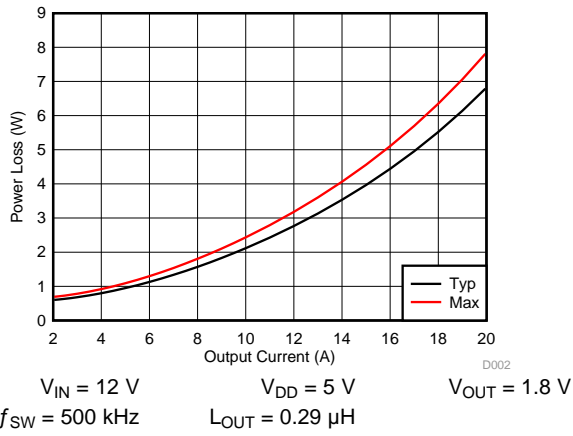
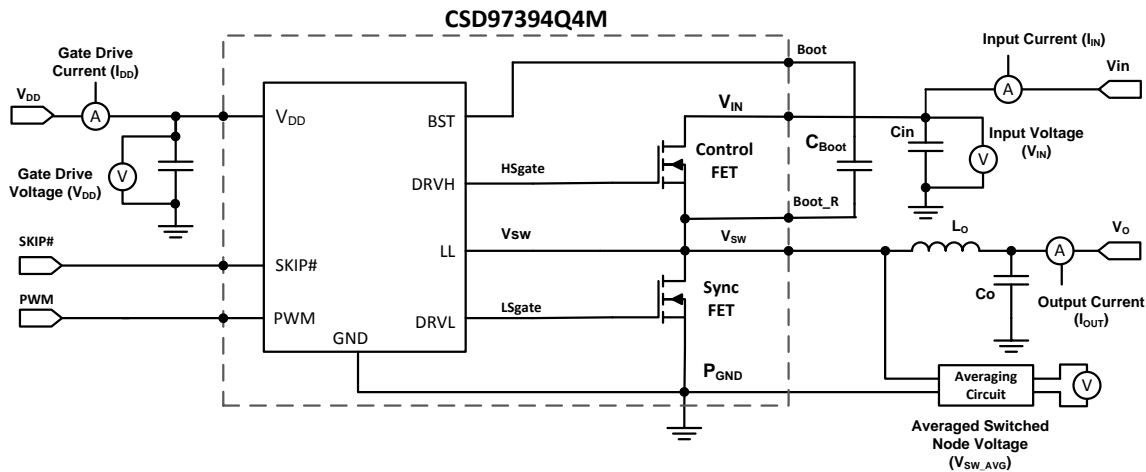

Figure 4. Power Loss vs Output Current
Figure 15. Power Loss Test Circuit
MOSFET centric parameters such as  $R_{DS(ON)}$  and  $Q_{gd}$  are primarily needed by engineers to estimate the loss generated by the devices. In an effort to simplify the design process for engineers, Texas Instruments has provided measured power loss performance curves. Figure 4 plots the power loss of the CSD97394Q4M as a function of load current. This curve is measured by configuring and running the CSD97394Q4M as it would be in the final application (see Figure 15). The measured power loss is the CSD97394Q4M device power loss which consists of both input conversion loss and gate drive loss. Equation 1 is used to generate the power loss curve.
The power loss curve in Figure 4 is measured at the maximum recommended junction temperature of  $T_j = 125^\circ\text{C}$  under isothermal test conditions.
- Typical Power Loss at 10 A = 2.1 W (Figure 4)